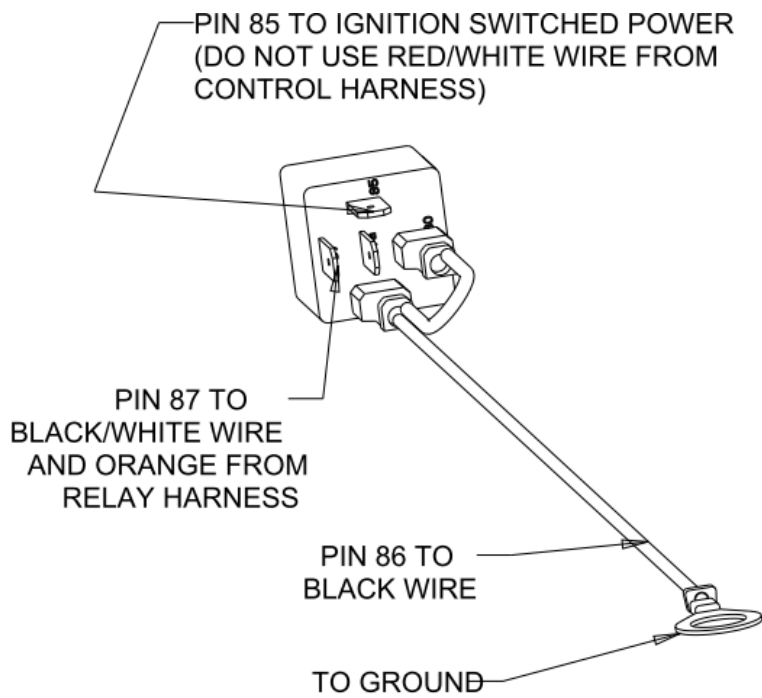

FIGURE 1
2. Disconnect ORANGE and BLACK/WHITE wires from the RELAY HARNESS from the BLACK wire (from the CONTROL HARNESS previously connected during 16071120/16071120 installation) and attach to PIN 87 of the relay per figure 1. The BLACK wire from the CONTROL HARNESS is not used and can be taped off.